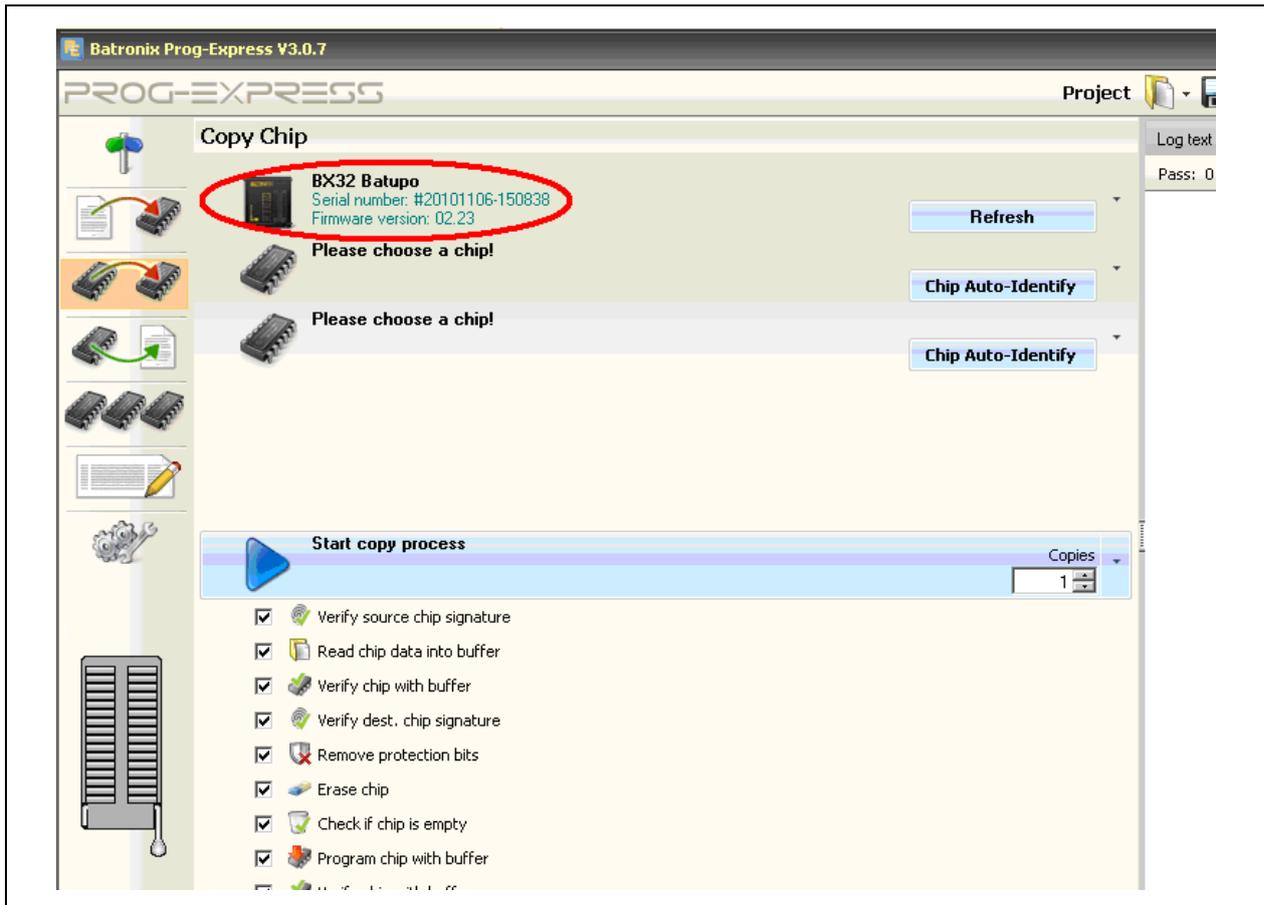

Figure 9: Program with selection "Copy data from a chip to another chip"
- c) Select “Copy data from a chip to another chip”. The connected programmer should be identified automatically (see Figure 9).